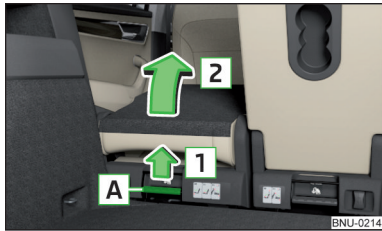

Fig. 90
- › Pull the lever **A** » Fig. 90 in the direction of the arrow **1** and fold the seat up in the direction of arrow **2**.